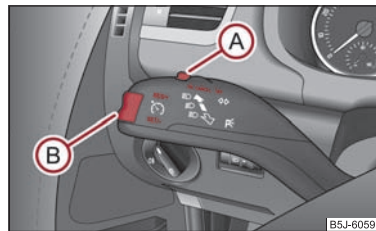

Fig. 98 Operating lever: Rocker button and switch of the cruise control system
- Press the switch **A** ⇒ fig. 98 into the position **ON**.
- You can **increase** the stored speed without depressing the accelerator, by pressing the rocker button (B) ⇒ page 94, fig. 98 into the **RES+** position.
The **Resumption** of the stored speed is achieved by releasing the brake or clutch pedal, on vehicles fitted with automatic gearbox only after releasing the brake pedal and after shortly pressing the rocker button (B) ⇒ page 94, fig. 98 into the position **RES+**.
- Press the switch (A) ⇒ page 94, fig. 98 to the right into position **OFF**. ■